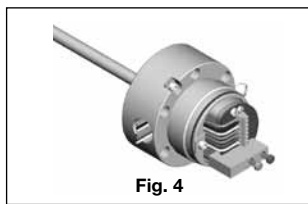

Fig. 4
- Step 3: Program the electrical stroke in accordance with the instructions in the standard Micropulse transducer user's guide. (Fig. 4)